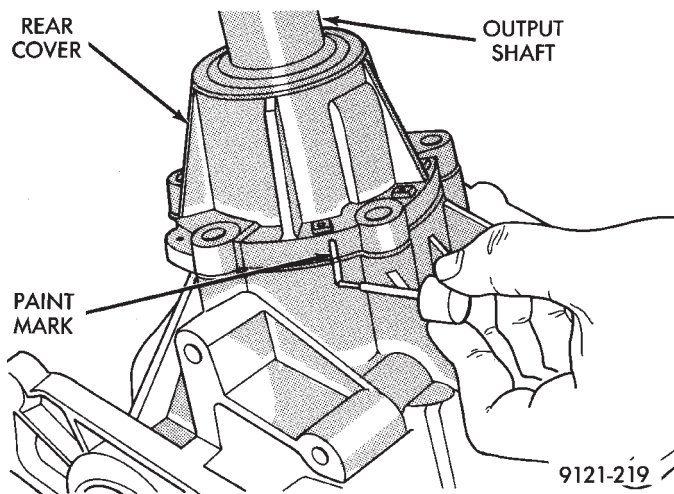

Fig. 2 Mark Rear Cover
- (3) Index rear cover to the case for later reassembly (Fig. 2).